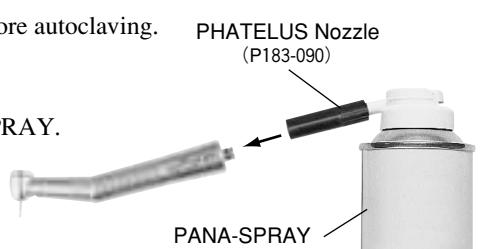

Fig. 8
■ PANA SPRAY (Fig. 8)
- ① Attach the PHATELUS nozzle into the spray outlet of PANA SPRAY.
- ② Insert the PHATELUS nozzle into the handpiece back end.
- ③ Spray for 1 - 2 seconds. Hold the spray can upright. (Fig.8)